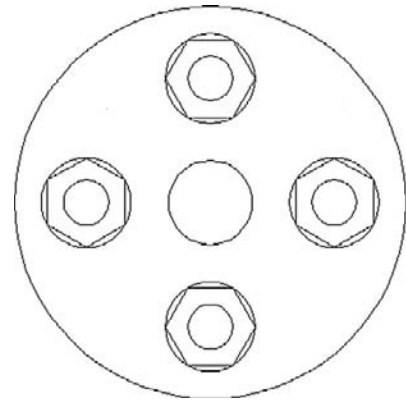

FIGURE 8.27
Step 6. Array the bolt around the top view four times, as shown in Figure 8.27.